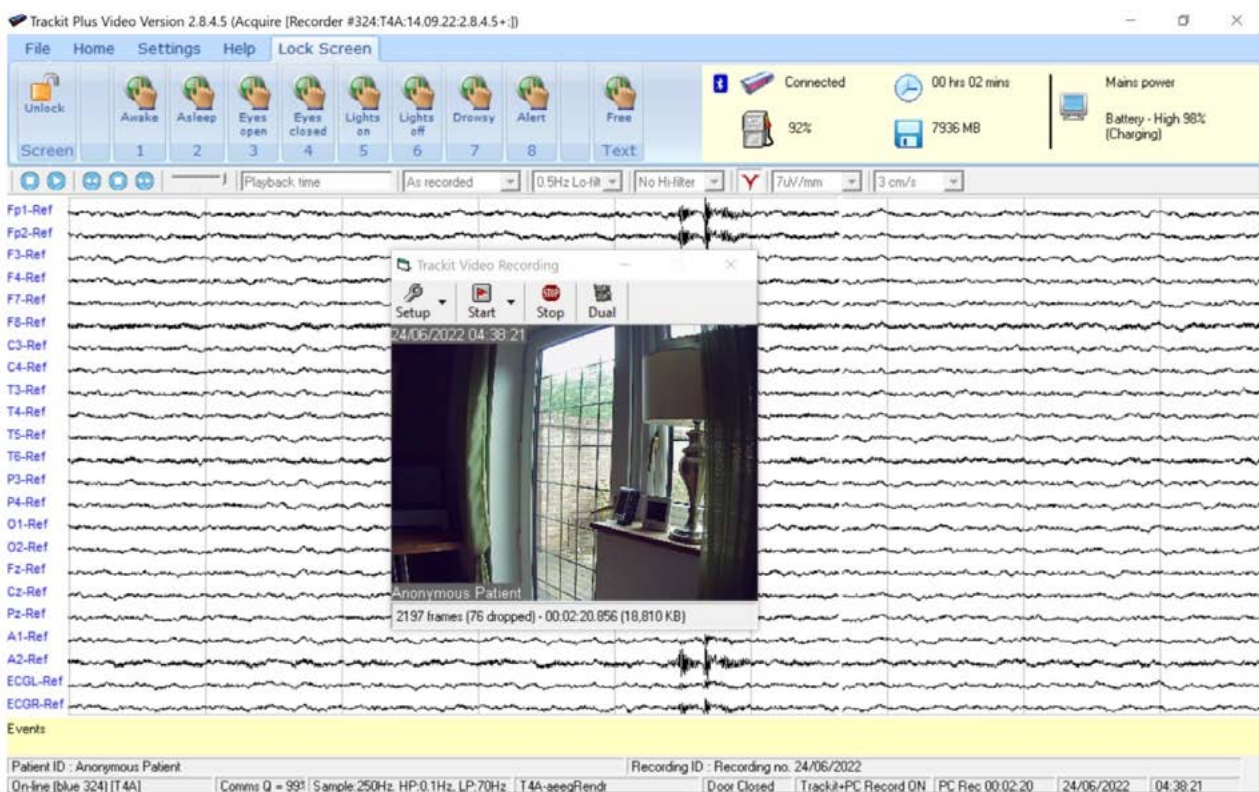

Figure 36: Lockscreen
If video was recorded with the EEG recording, the associated video is opened with the EEG recording and is displayed on the top of the EEG data in a moveable window as shown in Figure 36. This video data is time-synchronised to the EEG data. Audio is played as well if recorded with the video.
- Properties: displays parameters for the currently opened file as shown in Figure 36.